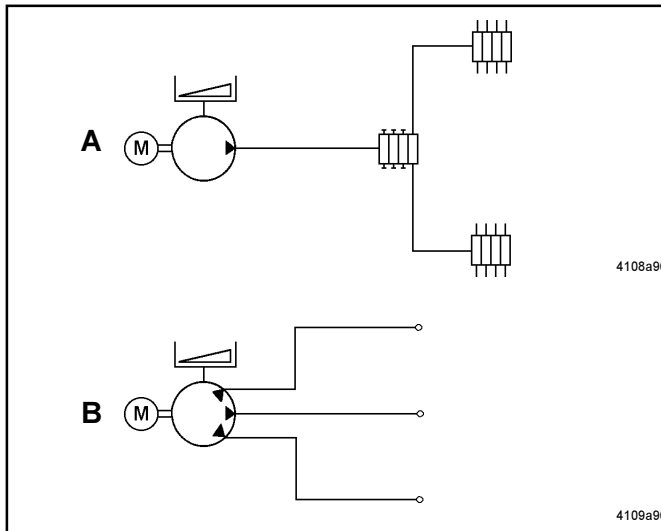

Fig. 1 - Sample Applications of multiline pump 215
- Pump model 215 used as a central lubrication pump for the supply of large-sized progressive systems (Refer to A, Fig. 1).
- Pump model 215 used as a multiline pump for the direct supply of individual lubrication points (Refer to B, Fig. 1)